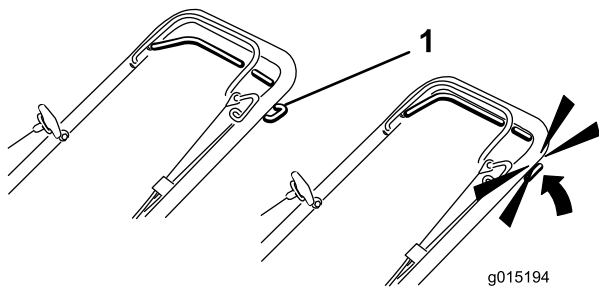

Figure 23
- To operate the self-propel drive, squeeze the self-propel drive bar against the handle and hold it (Figure 23).